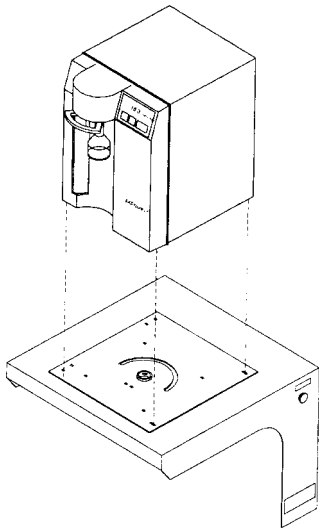

Figure 7 Orientation of Swivel Base
2. Place the EASYpure UV/UF on the wall bracket swivel base so the screw holes where the feet were attached line up with the holes in the wall bracket. There are guides on the wall bracket that will mate with the EASYpure UV/UF. See Figure 7.